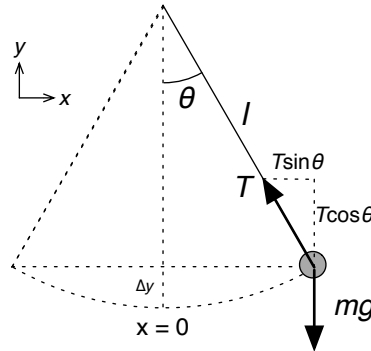

Figure 9.8: Simple Pendulum
Simple pendulums are another example of an oscillating system. They consist of a light, inextensible string carrying a concentrated mass at one end, while its other end is attached to a fixed point. Figure 9.8 illustrates such a pendulum, with massless string length  $l$  and mass  $m$ , that oscillates through the arc shown with the dotted line. The only forces acting on the mass are its weight,  $mg$ , and the tension in the string  $T$ .  $T$  can of course be decomposed into its  $x$  and  $y$  components, and these are shown in the figure.
- We can also say that the excursion in the  $y$  direction (indicated by  $\Delta y$  in Figure 9.8) is negligible for small angles, hence  $\ddot{y} \approx 0$ .